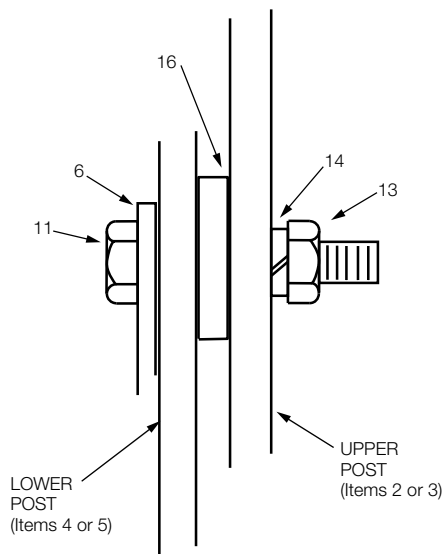

Figure 7. Attaching short cross brace (Item 6).
- Attach the upper ends of the short cross braces (Item 6) to the upper posts (Items 2 and 3) and lower posts (Items 4 and 5). Use 1.75" hex head capscrews (Item 11), with a spacer (Item 16) between the upper and lower posts. Secure with lockwashers (Item 14) and .5" hex nuts (Item 13). See Figures 7 and 9.